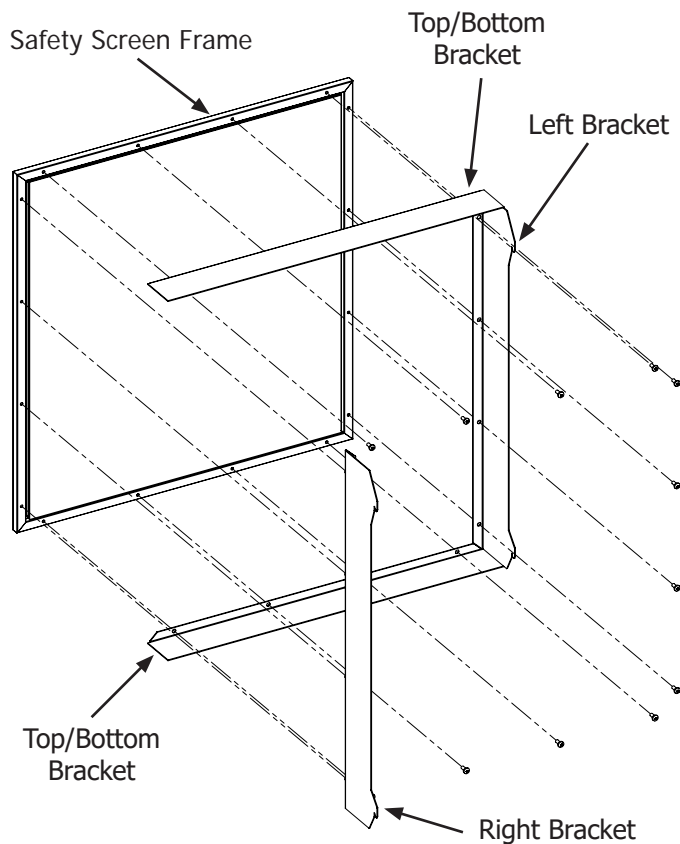

Figure 67: Installing Safety Screen Brackets
1. Attach the left, right, top/bottom brackets onto the safety screen using a T20 screwdriver and the supplied sixteen (16) #8 T20 screws (see Figure 67). Do not over-tighten the screws, doing so could cause them to strip out of the screen frame.